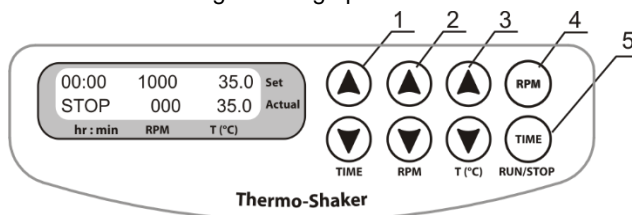

Fig. 3. Control Panel
- 5.3.1. **Setting time (TIME).** Using the ▲ and ▼ **TIME** keys (Fig. 3/1) set the required working time interval in hours and minutes (increment 1 min).
- 5.3.2. **Setting speed (RPM).** Using the ▲ and ▼ **RPM** keys (Fig. 3/2) set the required speed (increment 10 rpm).
- 5.3.3. **Setting temperature (T, °C).** Using the ▲ and ▼ **T, °C** keys (Fig. 3/3) set the necessary temperature (increment 0.1°C).
5.4.2. Press the **RPM RUN/STOP** key (Fig. 3/4). The platform will start rotating and the timer indicator will start counting up the time interval (with 1 min precision).
5.6. If required, there is possibility to restart the timer when it is running. Press the **TIME RUN/STOP** key once (Fig. 3/5) to stop the timer. Press the **TIME RUN/STOP** key again to restart the timer.
Caution! At the end of the set time period the platform movement is stopped automatically, but the heating can be stopped only manually by reducing the temperature using the **▼ T, °C** key (Fig. 3/3 - lower key) till the OFF sign appears in the upper line (Set) of the display